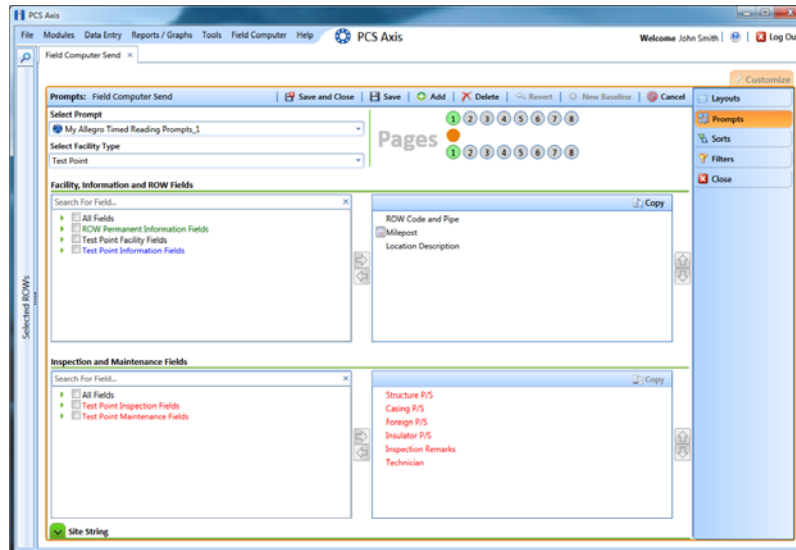

Figure 7-21. Prompts
- 9 Verify the name of the new theme displays in the **Select Prompt** field. If not, click the down arrow and select the theme in the selection list (Figure 7-21).
- b Double-click one or more fields in the selection list to move fields to the right pane. All fields listed in the right pane are included in the prompt theme (Figure 7-21).
- a Double-click **All Fields** in *Inspection and Maintenance Field* (Figure 7-21).
- a Click the  **Site String** tab to view a list of fields available for selection (Figure 7-21, page 305).